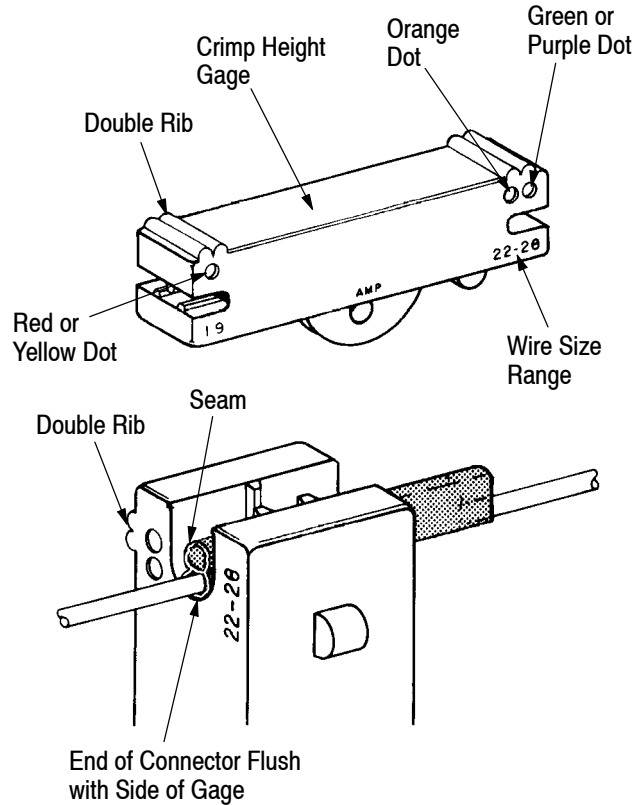

Figure 7
8.1. Gaging Crimped Connectors (Figure 7)